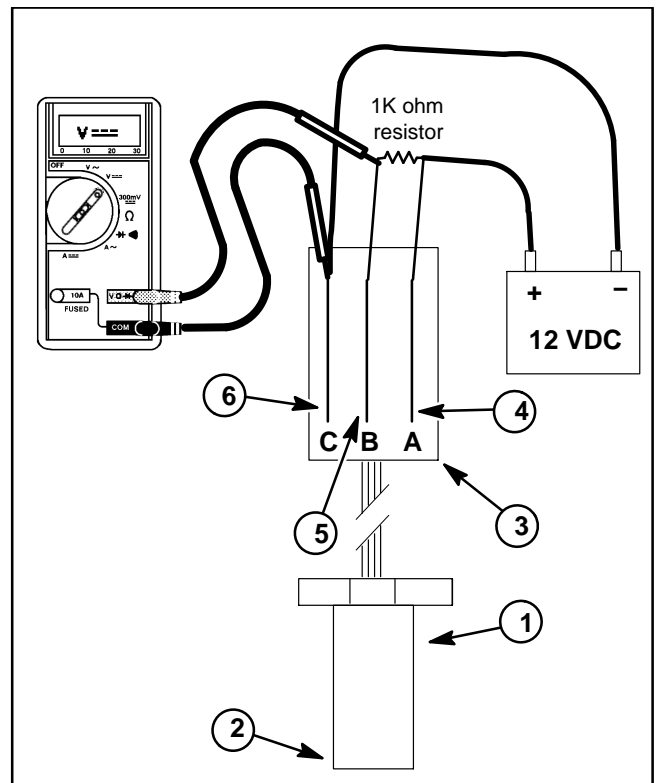

Figure 40
5. Using a +12 VDC battery, a multimeter, a 1K ohm resistor and appropriate jumper wires, connect the battery and multimeter to the speed sensor using Figure 40 as a guide.